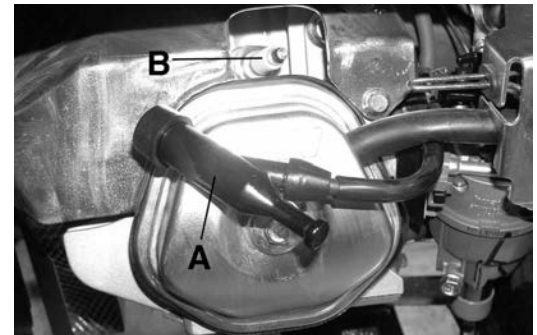

Figure 9
- 1) Dismantle the spark plug cap (A) Fig.9 by pulling it off the spark plug (B). Using the supplied spark plug wrench, undo the spark plug by turning it counterclockwise.